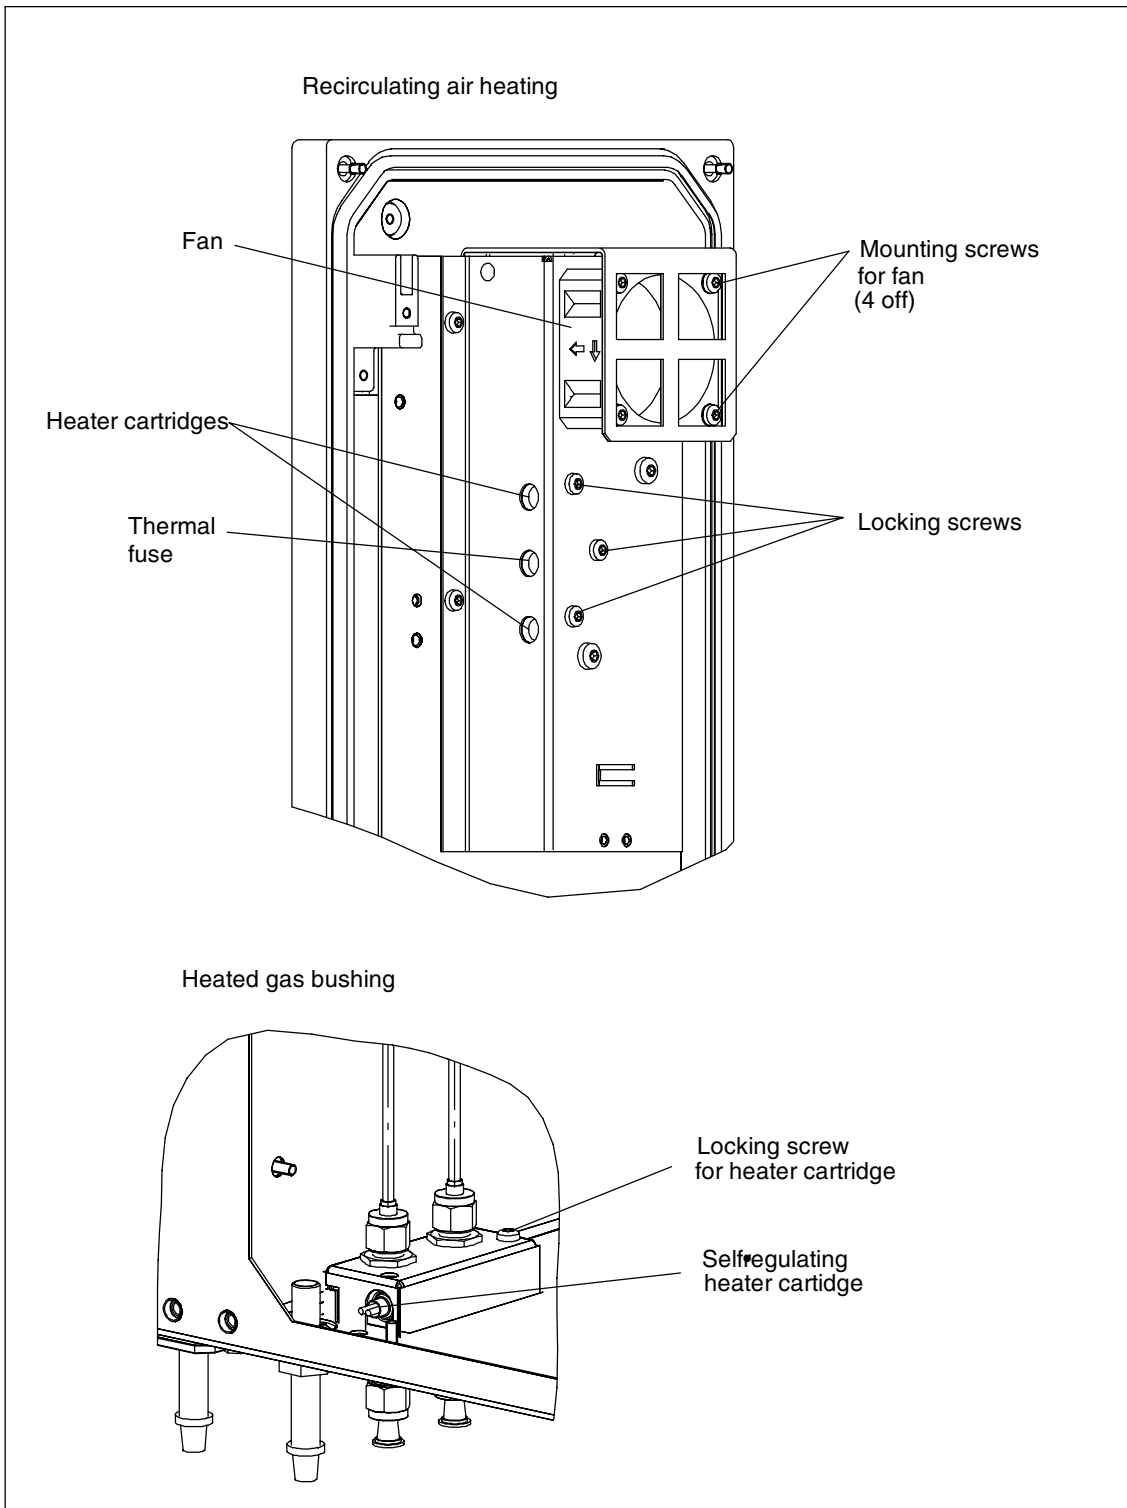

Fig. 6-1 Recirculating air heating and heated gas bushing for **ULTRAMAT 6F**
Replace the fan as follows (see Fig. 6-1):
- Remove the heater cartridge from the heater element (see Fig. 6-1)